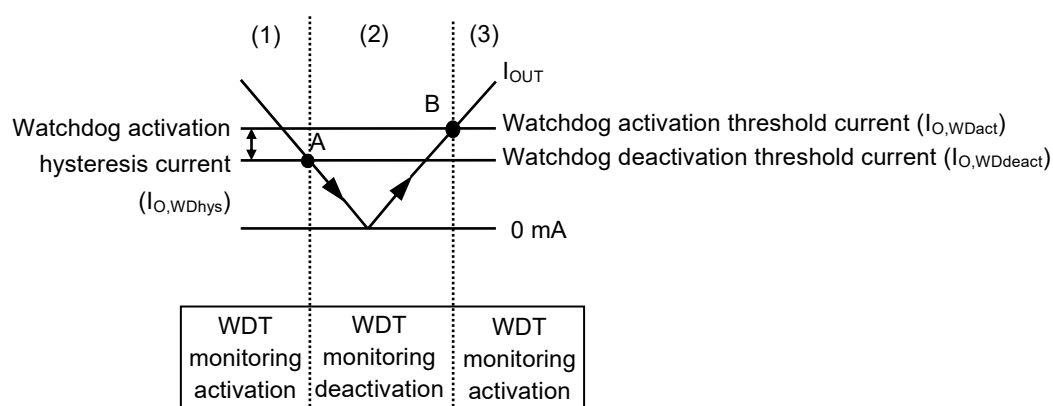

Figure 50 Autonomous Watchdog Operation Function
- (1) When  $I_{OUT}$  of the regulator is the watchdog activation threshold current ( $I_{O,WDact}$ ) or more, the WADJ pin voltage ( $V_{WADJ}$ ) is higher than the reference voltage ( $V_{ref}$ ), and the output of the comparator (C1) is "H". At this time, the watchdog timer is activated.
- (2) When  $I_{OUT}$  decreases to the watchdog deactivation threshold current ( $I_{O,WDdeact}$ ) (point A in **Figure 50**) or less,  $V_{WADJ}$  decreases to  $V_{ref}$  or less and the output of C1 is "L". At this time, the watchdog timer deactivates the monitoring. Even if  $I_{OUT}$  increases, the watchdog timer continues the monitoring deactivation when  $I_{OUT}$  is within less than  $I_{O,WDact}$ .
- (3) If  $I_{OUT}$  further increases to  $I_{O,WDact}$  (point B in **Figure 50**) or more,  $V_{WADJ}$  increases to  $V_{ref}$  or higher and the output of C1 is "H". And then, the watchdog timer initiates the monitoring activation.